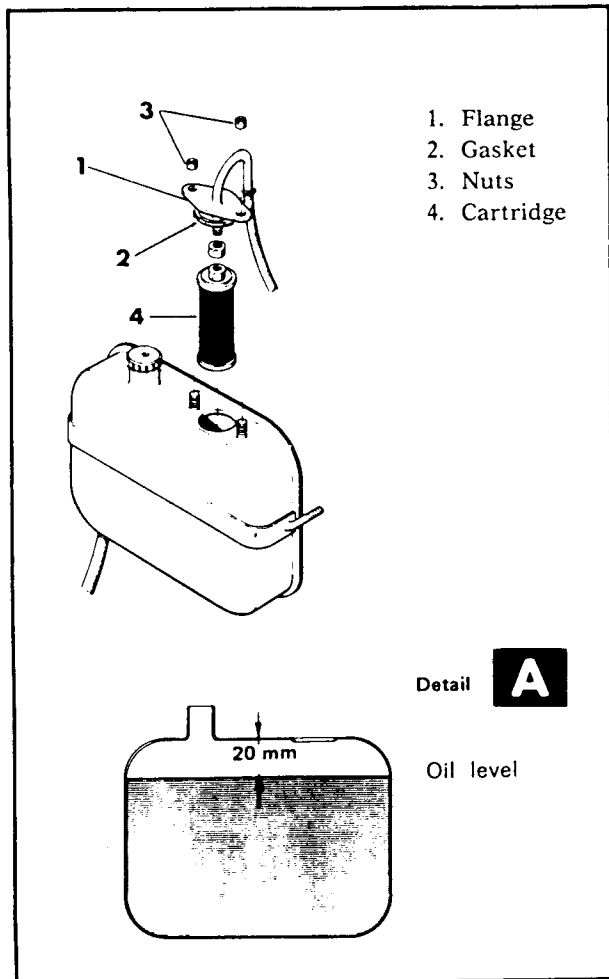

Figure 17 - Changing the hydraulic system filter
The hydraulic system filter cartridge must be changed about every 250 hours of work. To change the cartridge, proceed as follows (see Figure 17):
1. Check the oil level in the tank with the lifting ram completely retracted. The oil should come to about 3/4" from the edge of the tank (see Detail A in Figure 17).
Action of implement lifting or steering control rams insufficient.	<ol style="list-style-type: none"> 1. Insufficient oil level in tank. Check level (see Fig. 17). 2. Damage to hydraulic pump. Have the pump overhauled by an authorized workshop. 3. Jack losses. Check condition of packings and change if necessary.